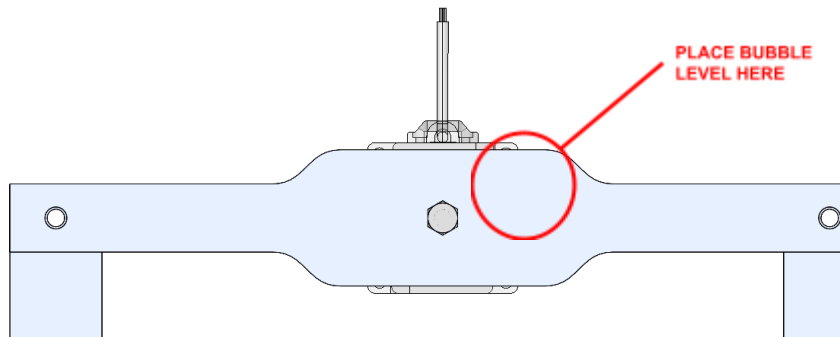

Fig. 2: Bubble level placement diagram
1.04: Place bubble level onto leveling system radial strut as shown in Fig. 2.	OK? _____